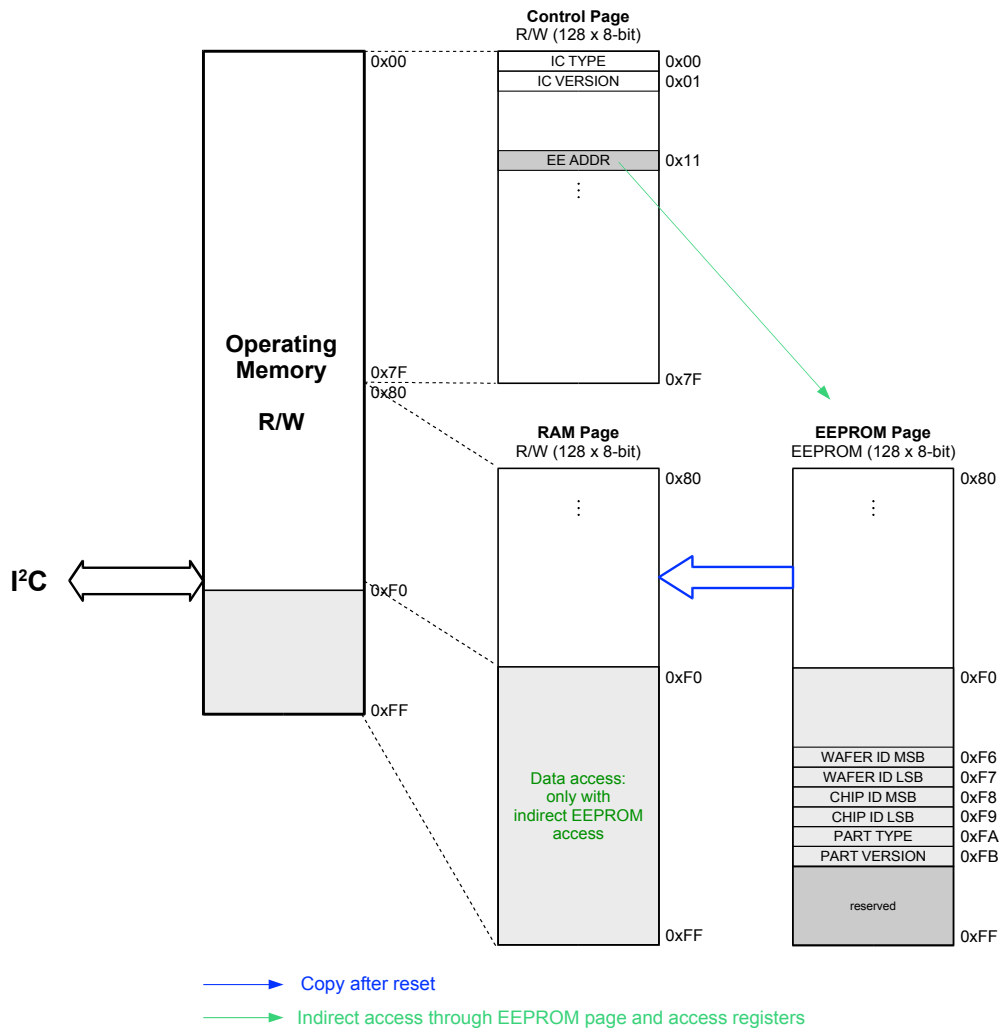

Figure 51: Memory map
The I²C-bus interface allows accessing the R/W registers and the programming of the EEPROM registers which store the configuration parameters. It is the only interface through which the configuration registers can be accessed (Figure 51 and Table 35) by the application. It works as a slave device according to the I²C specification (refer to chapter 16.2.) with a transfer rate of up to 400 kbit/s in Fast Mode (FM) or 1Mbit/s in Fast Mode plus (FM+). The I²C master such as an external CPU can set the transfer speed simply by driving the SCL input at that frequency (up to 1MHz), therefore there is no prior register configuration or setting necessary.